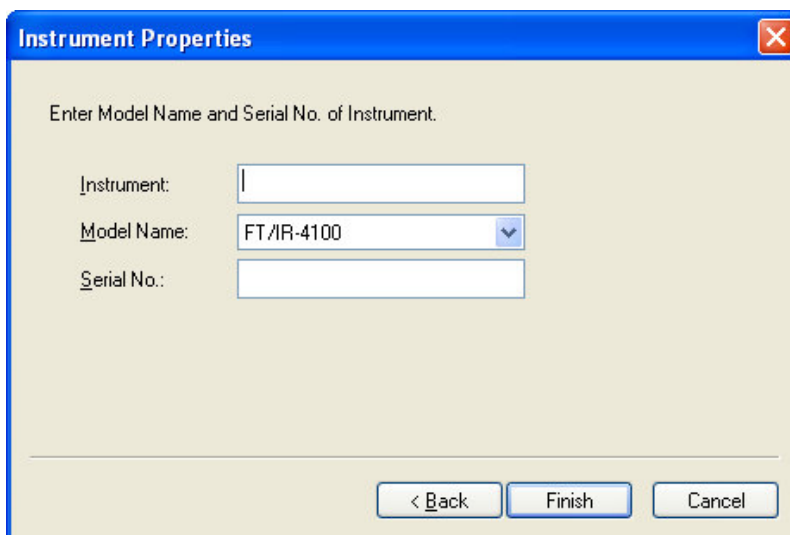

Fig.2.3 [Instrument properties] dialog
- (3) After entering the “Instrument type”, “Model name”, and “Serial No.”, clicking the <OK> button will register the FT-IR to the control PC (Fig. 2.3). In this case, please input an optional name for “Instrument”, input the “Serial Number” found on the plate on the side of the FT-IR, and select the “Model Name” from the drop-down list.